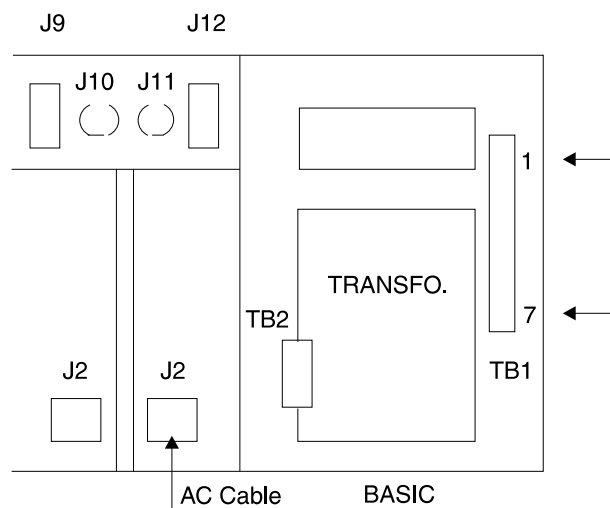

Figure 2-1. TB1 and TB2 Location on Transformer
– Refer to Figure 2-1. Check the ac main voltage on TB1 of the transformer.
Check that the machine is correctly wired for the customer's input voltage. Refer to Figure 2-1 on page 2-4. Check the ac main voltage on the TB1 of the transformer.